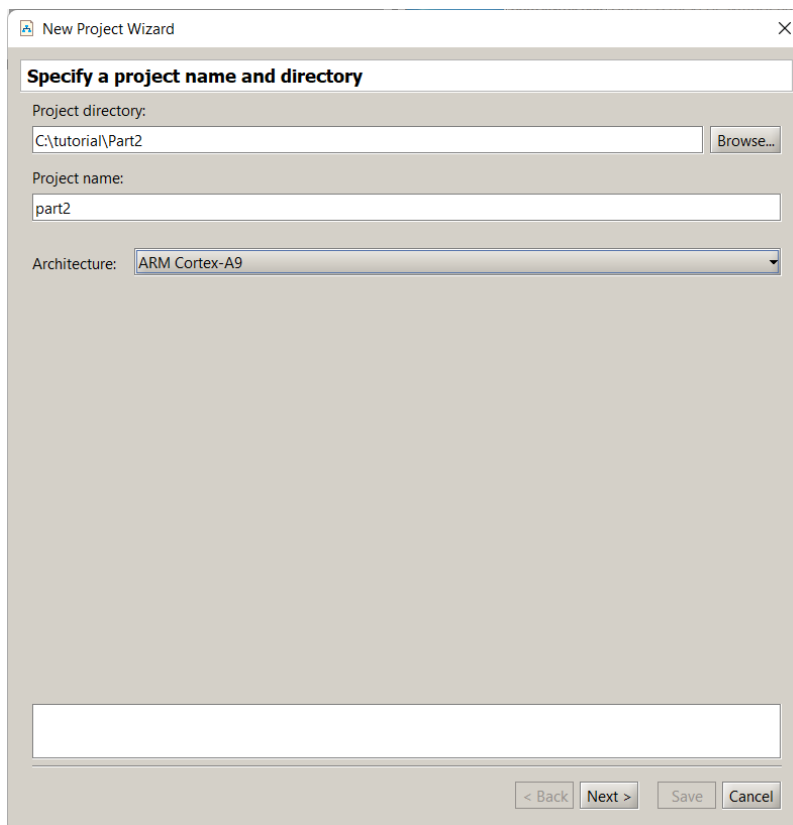
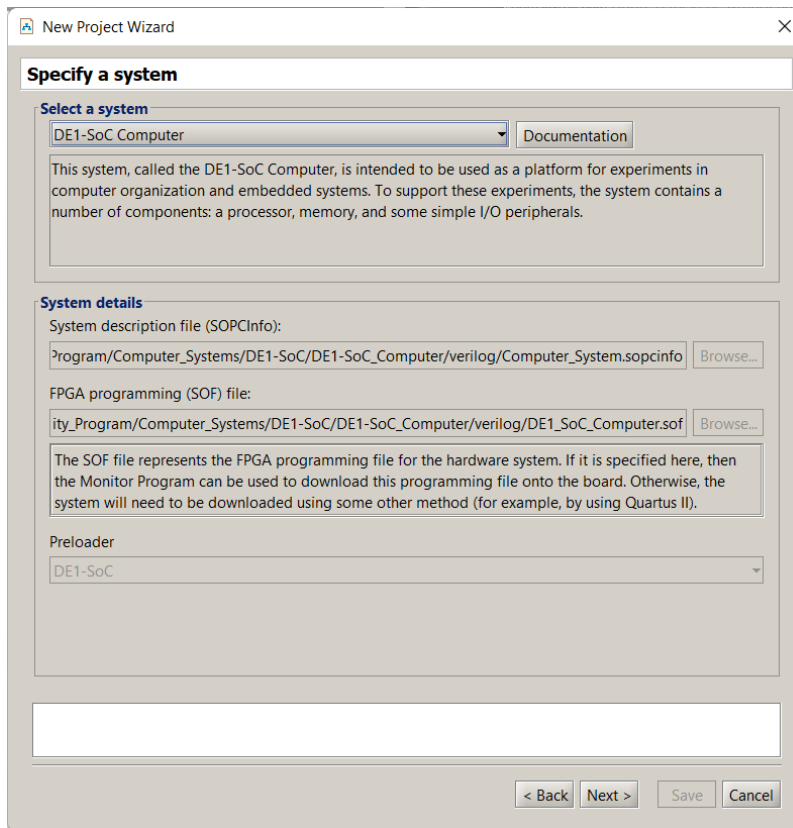

Figure 2: Specify the folder and the name of the project.
Figure 3: Specification of the system.
To develop ARM software code using the Monitor Program it is necessary to create a new project. Select **File > New Project** to reach the window in Figure 2. Give the project a name and indicate the folder for the project; we have chosen the project name *part2* in the folder *tutorial\Part2*, as indicated in the figure. Use the drop-down menu shown in Figure 2 to set the target architecture to the ARM Cortex-A9 processor. Click **Next**, to get the window in Figure 3.
3. Now, you can select your own custom computer system, or a pre-designed (by Intel) system. As shown in Figure 3 select the *DE1-SoC Computer*. Once you have selected the computer system the display in the window will now show where files that implement the chosen system are located. Click **Next**.